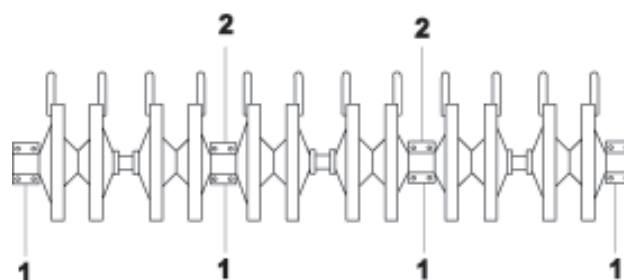

FIGURE 1
1. Back tractor up to Tracaire. Attach Tracaire to 3-point hitch on tractor and secure. See Figure 1.